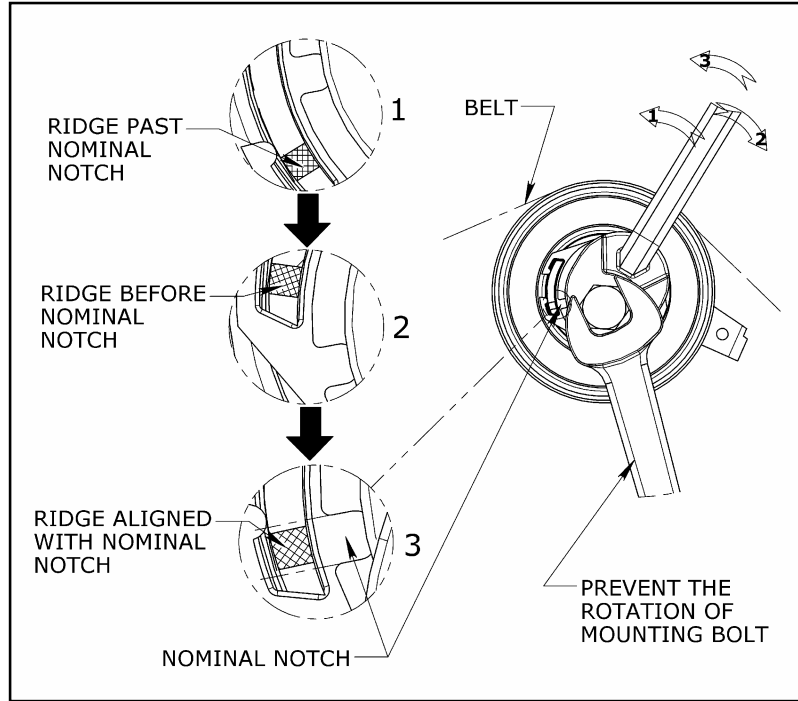
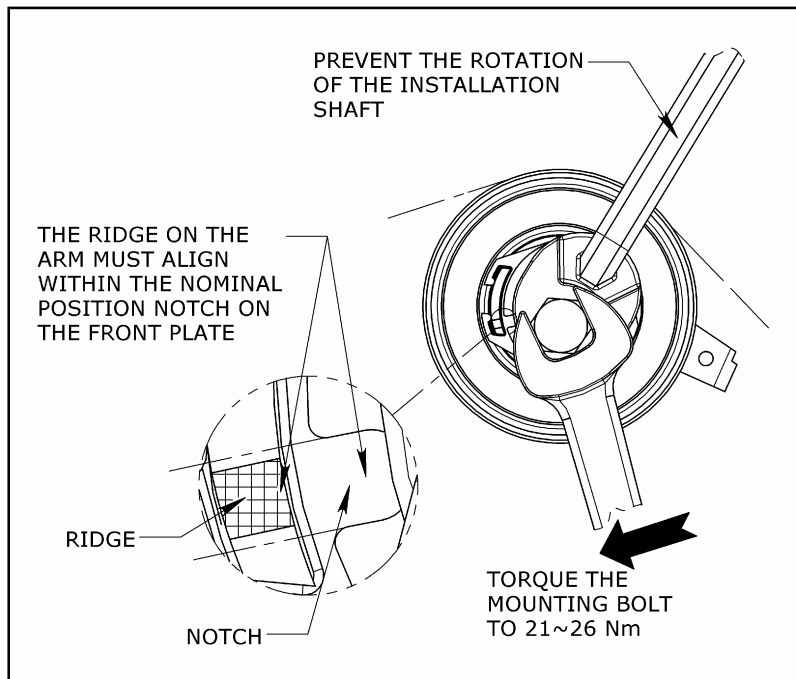

Figure 5: Tensioner Cycled before setting to Nominal Position
Figure 6: Tensioner Torqued at Nominal Position
9. Continue rotating the installation shaft in the counterclockwise direction **1** (Fig. 5) so that the ridge passes the nominal notch and stops at load stop as shown in Detail **1** (Fig. 5).
Then rotate the installation shaft in the clockwise direction **2** (Fig. 5) to have the ridge pass the nominal notch and stop as shown in Detail **2** (Fig. 5). After cycling the tensioner as mentioned, rotate the installation shaft in the counterclockwise direction **3** only (Fig. 5) so the ridge aligns within the edges of the nominal notch as shown in Detail **3** (Fig. 5).
10. Once the nominal position is achieved, prevent the rotation of the installation shaft and torque the mounting nut to **21~26 Nm** (Fig. 6).
If the 2 edges of the arm Alignment Ridge is within the Alignment Notch on the front plate (Fig. 6), the tensioner is set at its nominal position and the installation is complete.
15. Prevent the mounting bolt from rotating and cycle the installation shaft so that the ridge cycles around the nominal position (Fig. 5) and then rotate the Installation Shaft COUNTERCLOCKWISE only until the arm Alignment Ridge moves counterclockwise to align within the Notch on the front plate (Fig. 6).